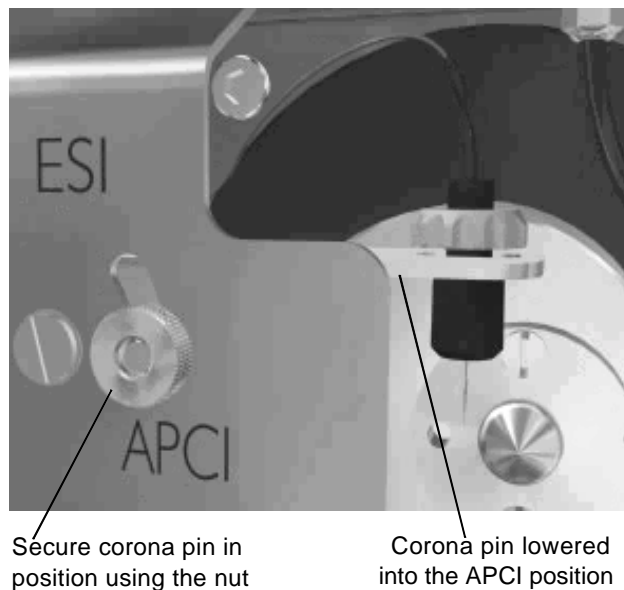

Figure 2-9. Lowering the corona pin
4. Lower the corona pin into the APCI position and secure with the thumb nut (see Figure 2-9). When looking at the probe and corona pin end-on, ensure that the pin is central and protrudes into the path of the probe by 1 mm.